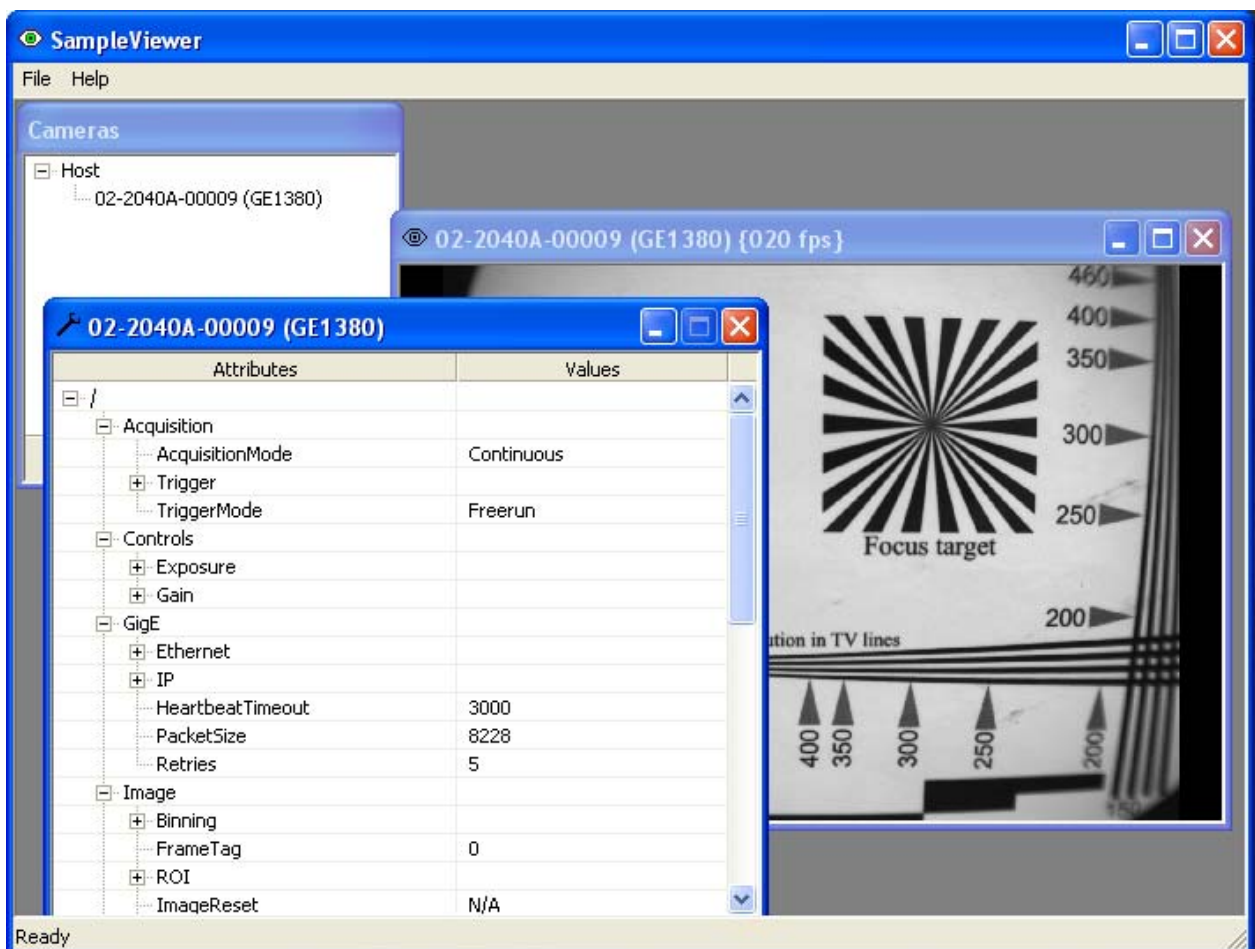

Figure 8. GigE Viewer application window.
- See Figure 8. Select the *wrench* icon to change camera settings. Change the PacketSize to a value of 1500. Select the *eye* icon to image. The camera should now be imaging. If the camera is not imaging, see the Trouble Shooting section of this document. Note that the PacketSize can be set to 8228 if the network card has been optimized to support jumbo frames.